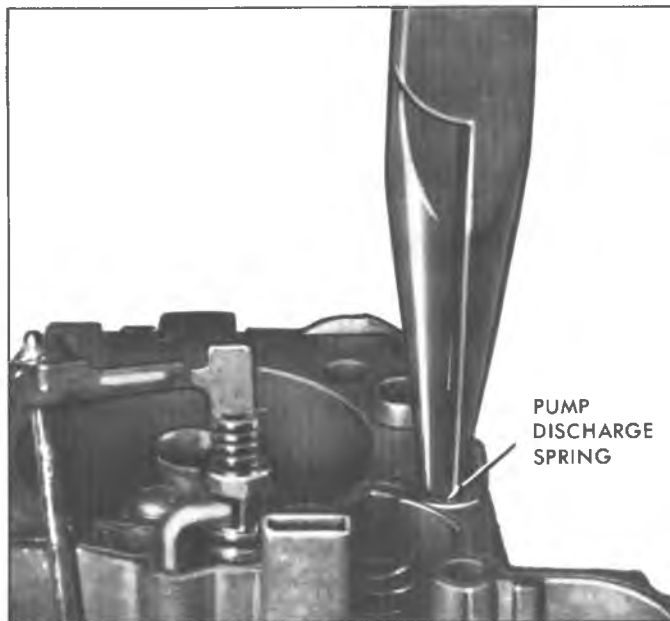

Fig. 5—Removing Pump Discharge Spring
11. Remove "T" guide and pump discharge spring using needle nose pliers. (Fig. 5).